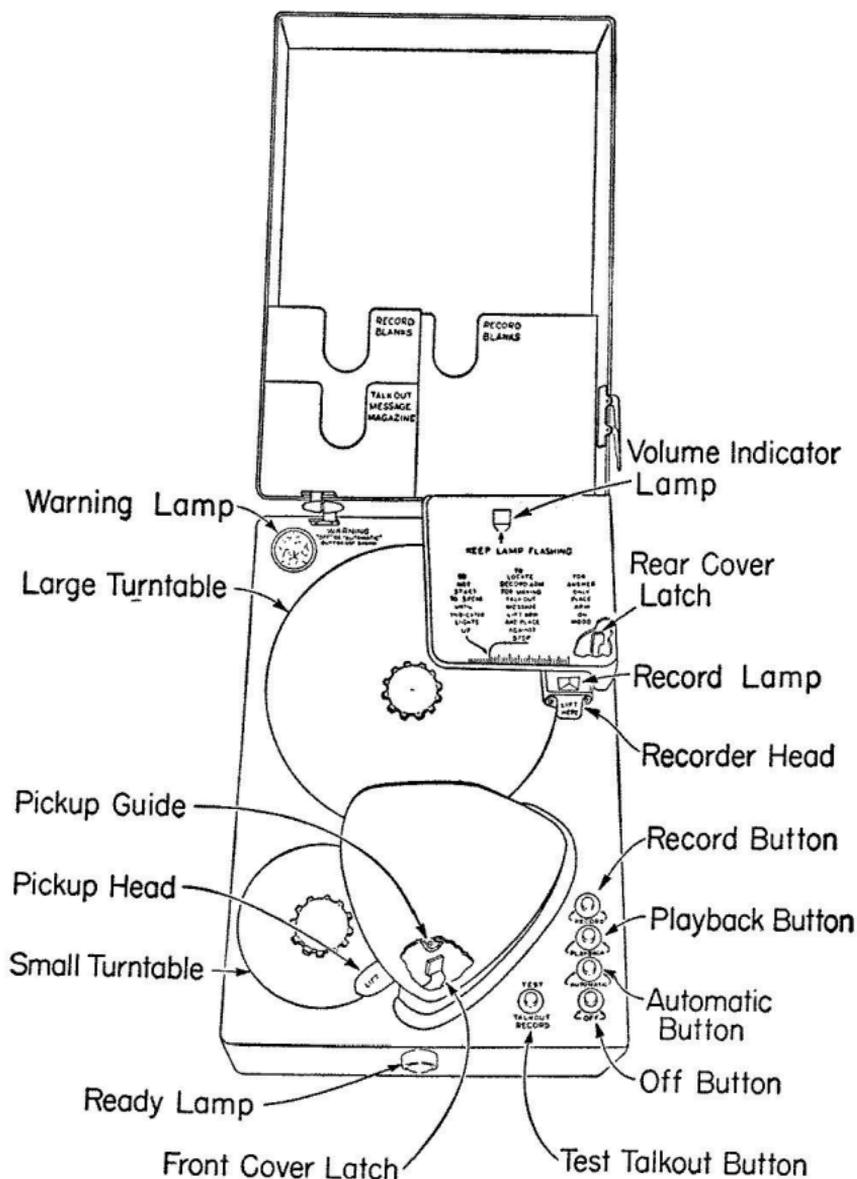
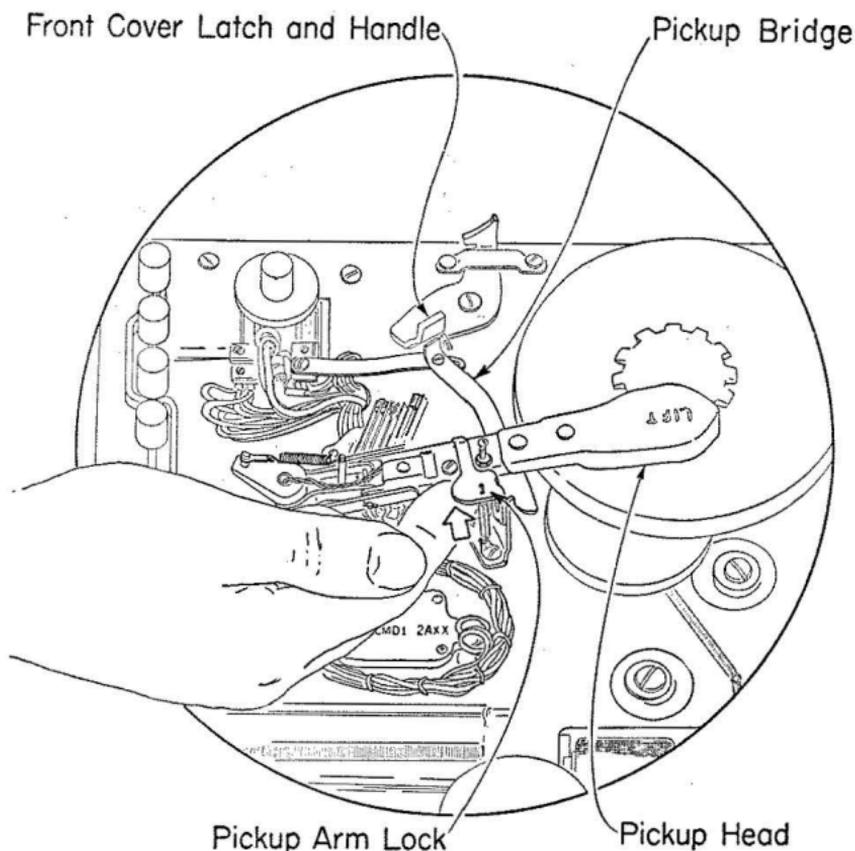

Fig. 1
Fig. 2
- (a) Secure the pickup arm by means of the spring lock provided (see Fig. 2).
(a) **Remove the case**—The case is locked in place with two latches. One under the front edge of the shield which protects the pickup arm, and the other under the shield which protects the recording arm (Fig. 1). Slide the forefinger of the left hand in between the pickup head and its cover until the latch lever is found. Care should be taken to avoid disturbing the position of the pickup bridge (Fig. 2) while removing the case. Insert the thumb of the right hand along the right side of the recorder arm shield until the other latch is located. Press the front latch **forward** and the rear latch **backward** until both are released. Remove case by lifting vertically. Place the case to one side.
- (j) Release the pickup arm by raising the pickup arm lock (see Fig. 2), and moving pickup arm forward at the same time. This arm may have been tied in place for shipment.
- (o) Remove the protective cover from the pickup head and move the pickup arm to the forward stop on the bridge (Fig. 1).
6.04 Record a suitable announcement message, e.g., "This is Exchange 6-9970. You are being answered by an automatic machine. This is a test record being used by the Telephone Company to check the service. When you hear the first tone signal, please leave a message commenting on the performance. Do not hang up until after you hear the second tone signal." While recording, use transmitter in the normal manner and speak loudly enough to keep the volume indicator (see Fig. 1) flashing brightly.
6.08 Remove the small record from the large turntable and place it on the small turntable. Place the pickup arm at the forward end of the bridge as far as it will go (see Fig. 1). Remove the hand set from its mounting, depress the TEST TALK OUT button, and listen to the announcement message in the hand set receiver. Check to be sure that the message is complete and intelligible. When listening to the announcement message in this manner, the volume is automatically adjusted to be less than will actually be transmitted to the line when the machine responds to a call.